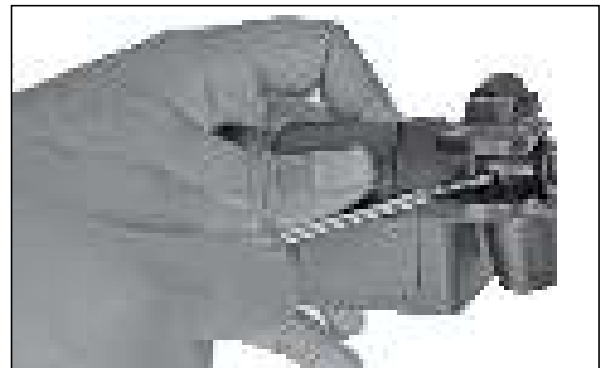

Fig. 6.40
- Remove the dust boot from the master cylinder using a blunt tool. (Fig. 6.40)